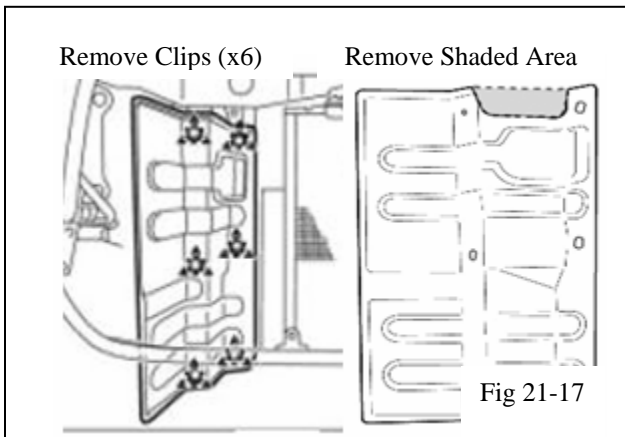

Fig 21-17
- (p) Using a clip remover, remove the 6 clips, disconnect the wire harness clamp, and remove the RH radiator side deflector (Fig 21-17).
- (q) Trim and remove the marked area (Fig 21-17). Re-install the RH side deflector using the original 6 clips.